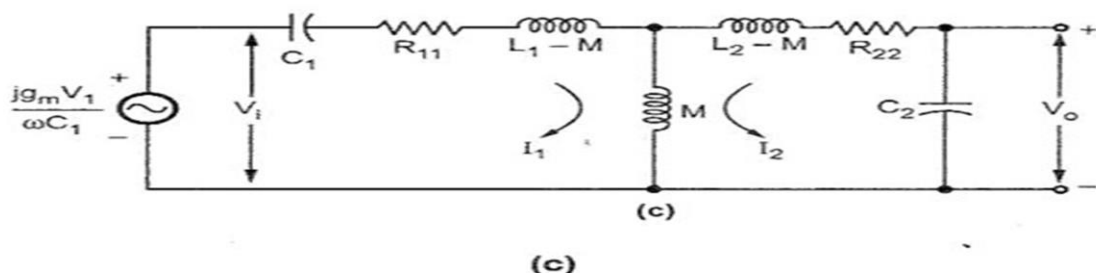

Fig. 3.19 Equivalent circuits for double tuned amplifier
The Fig. 3.19 (a) shows the coupling section of a transformer coupled double tuned amplifier. The Fig. 3.19 (b) shows the equivalent circuit for it. In which transistor is replaced by the current source with its output resistance (R_o). The C_1 and L_1 are the tank circuit components of the primary side. The resistance R_1 is the series resistance of the inductance L_1 . Similarly on the secondary side L_2 and C_2 represents tank circuit components of the secondary side and R_2 represents resistance of the inductance L_2 . The resistance R_i represents the input resistance of the next stage.
The Fig. 3.19 (c) shows the simplified equivalent circuit for the Fig. 3.19 (b). In simplified equivalent circuit the series and parallel resistances are combined into series elements. Referring equation (9) we have,
Looking at Fig. 3.19 (c), the output voltage can be given as,